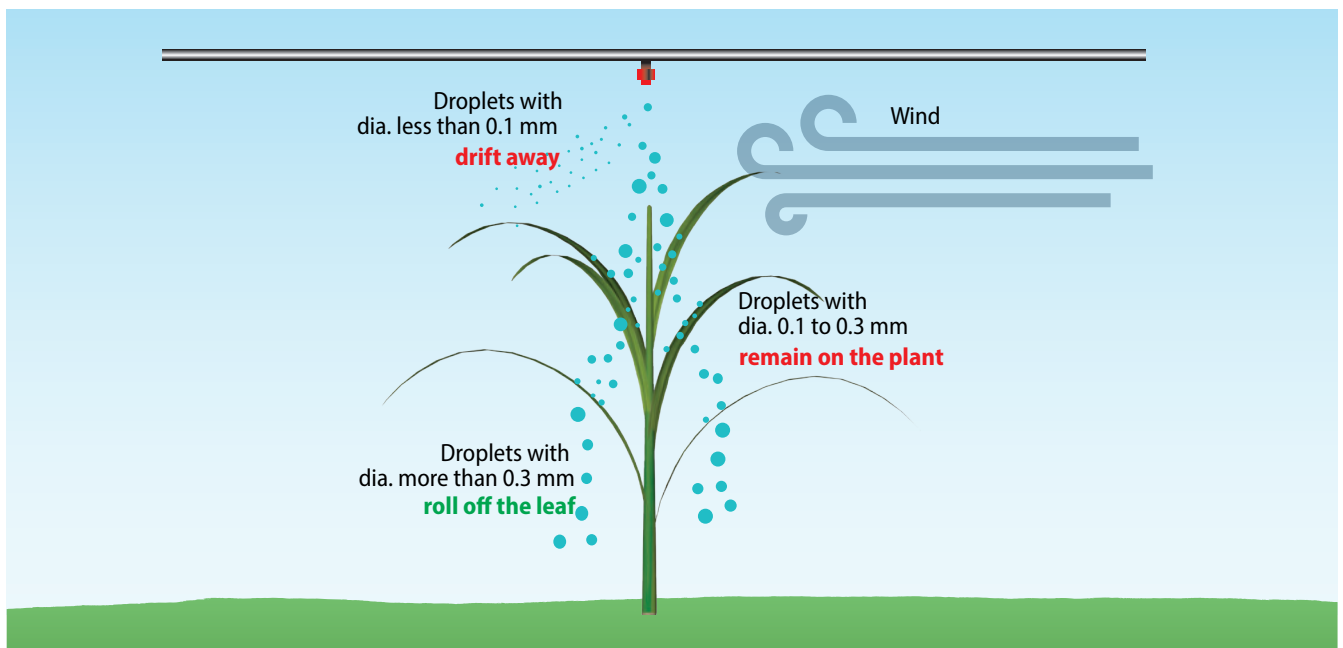

Figure 4: Schematic representation of application of different droplet sizes and their different properties on the leaf
Alongside the quality characteristics of the liquid fertilizers, the application method additionally supports the success of liquid fertilizer application. The generation of coarse droplets (Figure 4) is achieved through the use of drift-reducing nozzles (ID and IDK nozzles) with low spray pressure (approx. 2 bar). This results in a coarse droplet spectrum. Under critical conditions, special liquid fertilizer nozzles (FD) or multi-orifice nozzles (FL or FS) are used to also deliver the liquid fertilizer in large quantities by “rain-like” application.